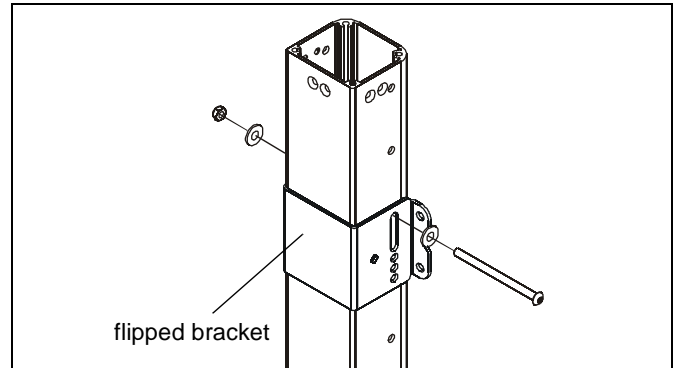

Figure 3
NOTE: Clamp brackets (P) may be flipped in order to use long slots for installation if necessary. (See Figure 3)